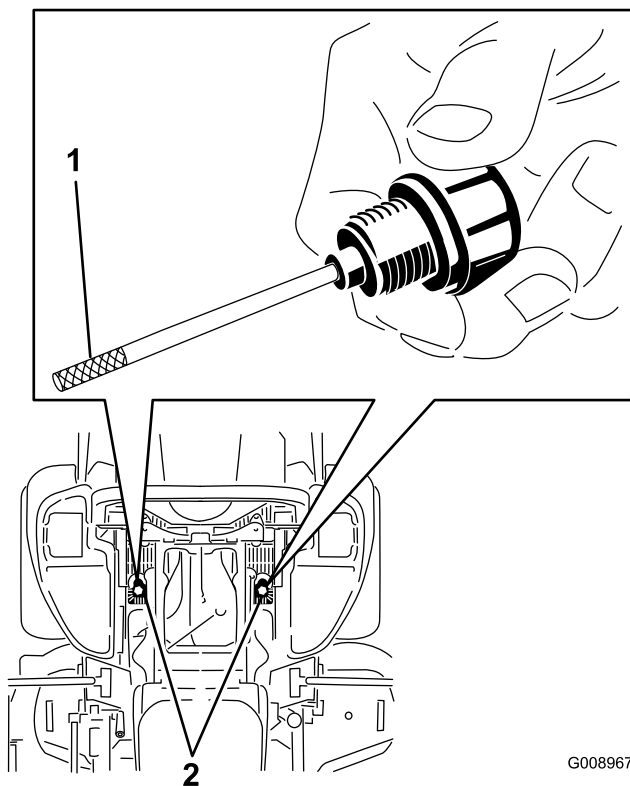

Figure 79
6. Clean the area around the dipsticks of hydraulic system reservoirs (Figure 79).
7. Remove one dipstick from the hydraulic reservoir (Figure 79).
9. Remove the dipstick and look at the metal end (Figure 79). The level needs to be within knurled section. If oil level is low, slowly pour only enough oil into the hydraulic reservoir to raise the level to the knurled section.